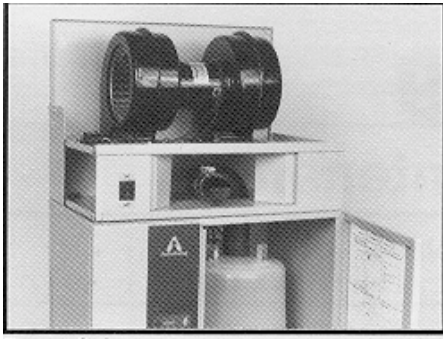

Figure 2-1
4. **Place the fan unit** on top of the humidifier. (See Figure 2-1)